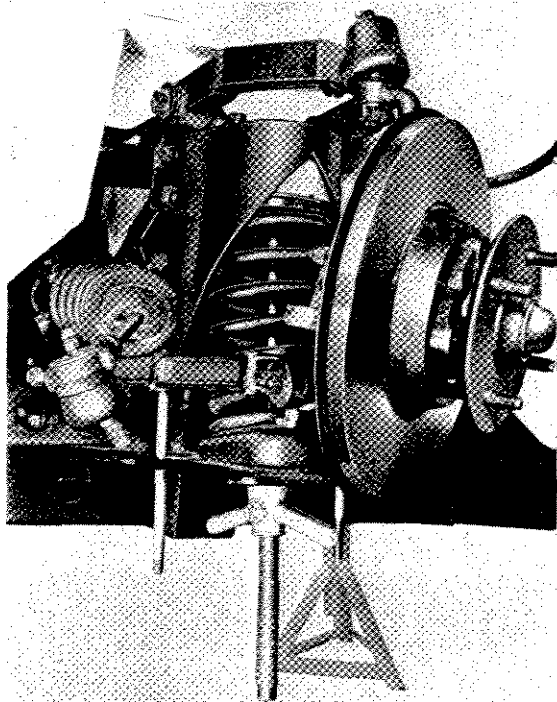

Fig. 8. Releasing the front spring
Compress the spring by tightening the wing nut until the lower wishbone arms are horizontal. Remove the bolts (62) and fit two  $\frac{3}{8}$ "  $\times$  6" (9.5 mm.  $\times$  152 mm.) guide rods as shown on Fig. 8.